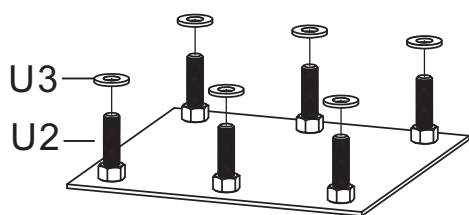

FIGURE 1A
A. Slide a 18mm Thick Washer (U3) over each of the J-Bolts(U2) as shown in FIGURE 1A.